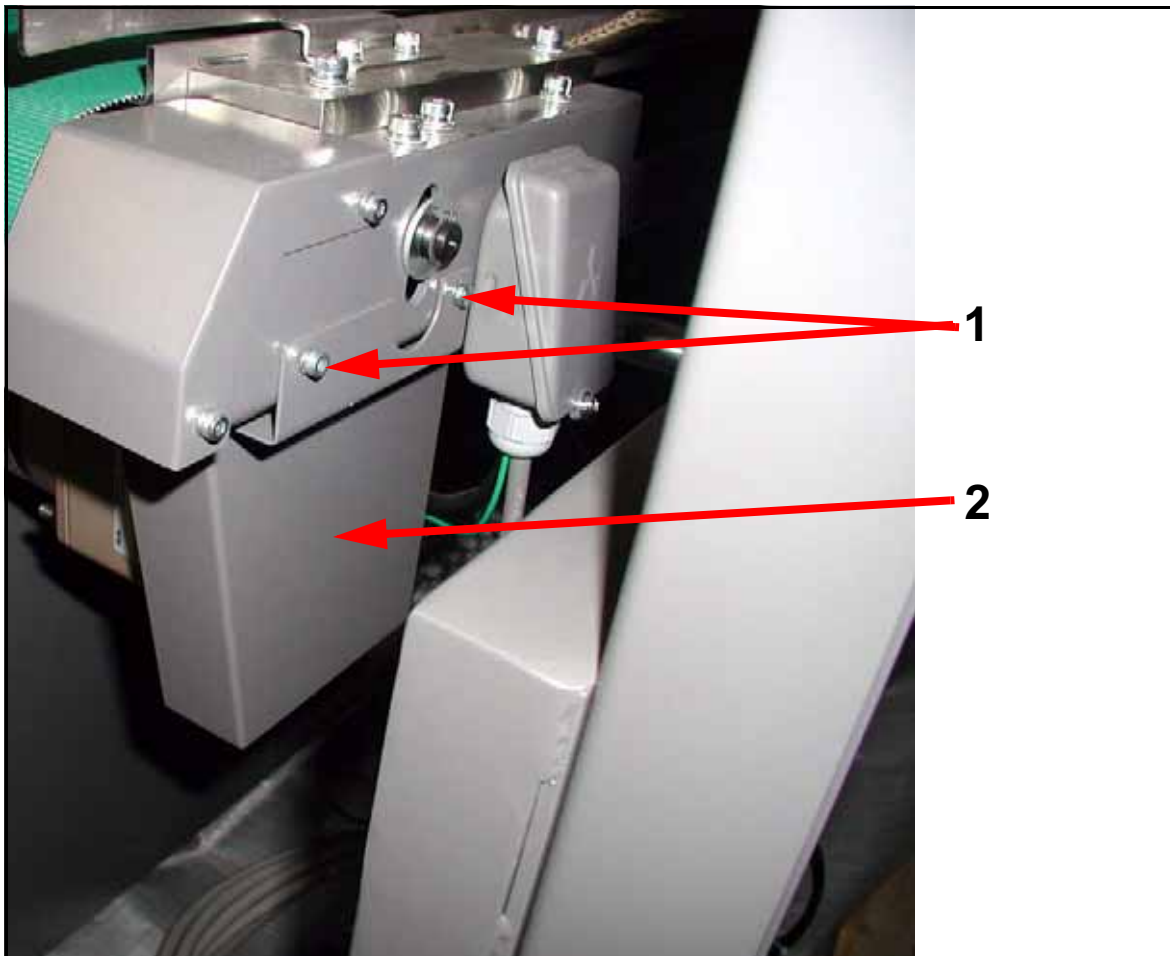

Figure 6-12. Infeed Conveyor Drive Chain Cover
- 1 Unscrew cover screws (1 in Figure 6-12) and remove cover (2).